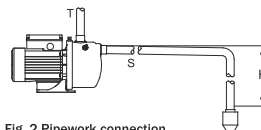

Fig. 2 Pipework connection
To prevent solids from entering the pump, a filter can be fitted to the suction pipe. When installing the pipes, it must be ensured that the pump is not stressed by the pipework. Connect the discharge pipe to the pump discharge port (T). See fig. 2. H = maximum 8 metres.